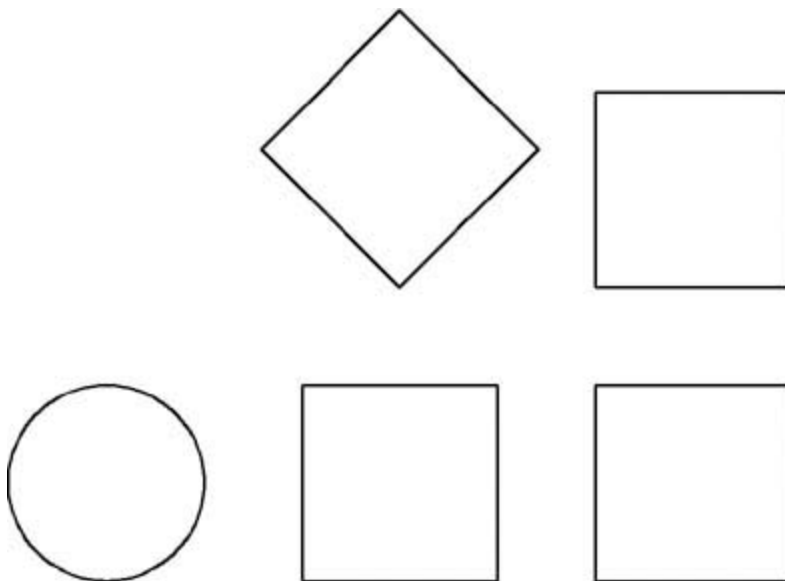

Figure 4-13
- 5** Type **1<Enter>** to specify a radius of 1. AutoCAD creates the circle and ends the **CIRCLE** command. Your drawing should now look like Figure 4-13.